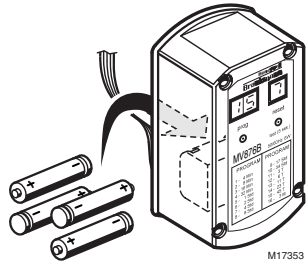

Fig. 9. Installing batteries in the MV876.
3. Remove and discard the old fuse (see Fig. 9).
4. Insert a new 800 mA fuse (see Fig. 9).